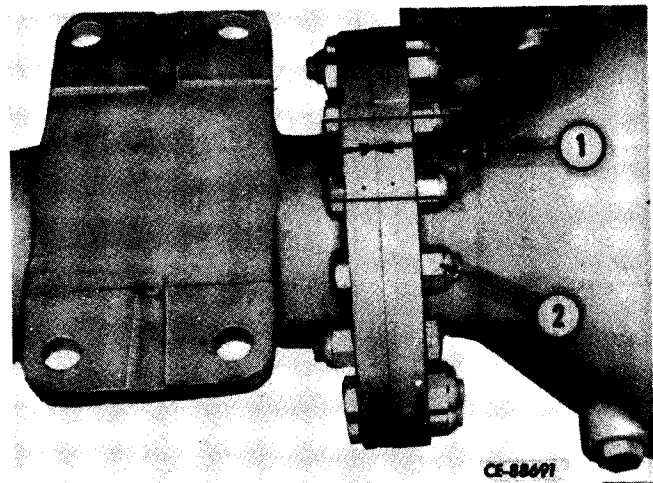
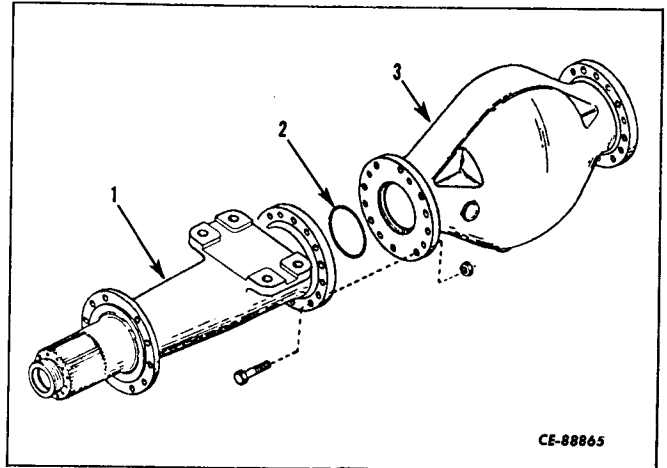

Figure 6-18
Figure 6-19
If a section of the axle housing requires removal, index the two pieces to be separated with a felt marker or two punch marks (1, Fig. 6-18) to insure correct assembly.
Install new "O"-ring (2, Fig. 6-19) in position on axle housing (1) boss. Align the identification marks (1, Fig. 6-18) on the two housings (1, 3) and secure with cap screws and hex nuts (nuts face in toward differential). Tighten hex nuts to